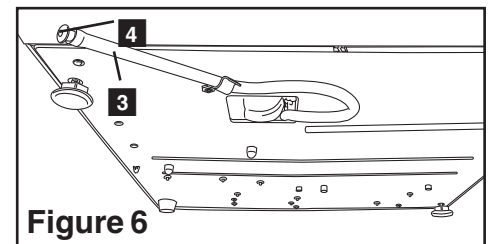

Figure 6
To prime the Statim pump, follow these steps (see Figure 6):
2. Using the drain tube (see Section 3.5 Priming the Statim Pump, Figure 6) empty the contents of the reservoir into the water container.